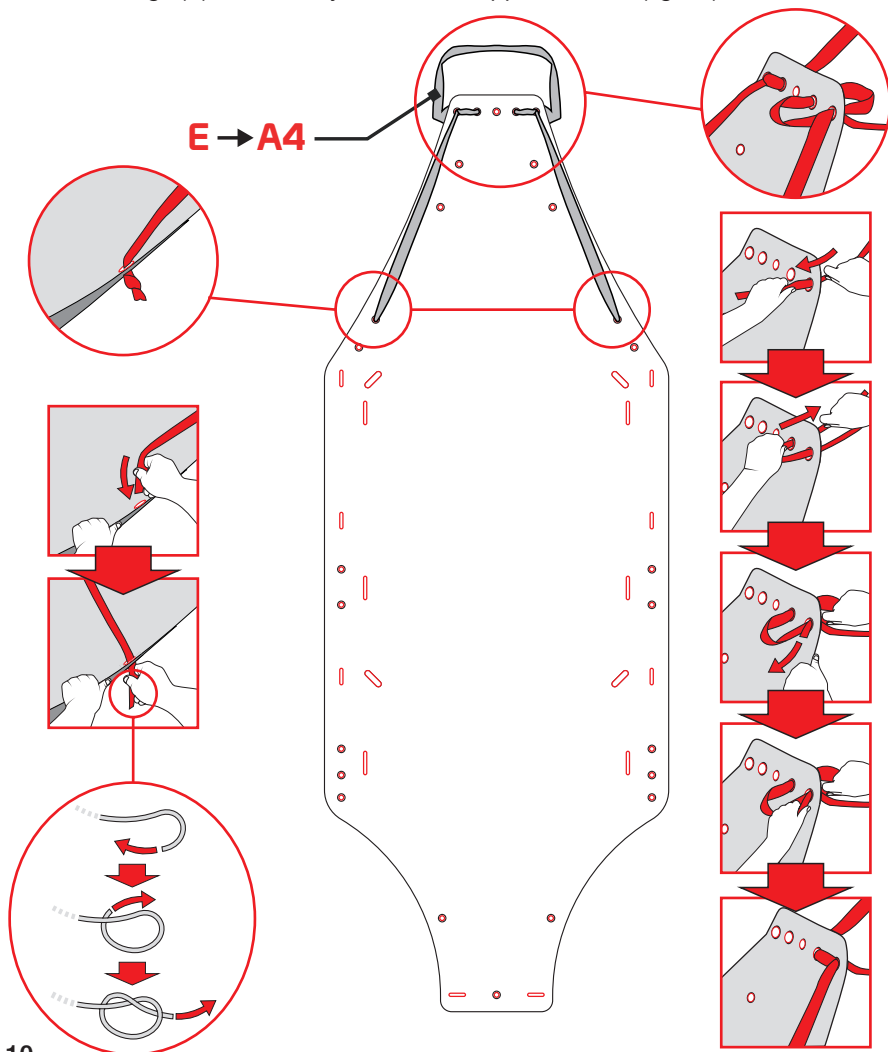

Fig.10
- Insert the sling (E) in the A4 holes in the support surface (fig. 10).